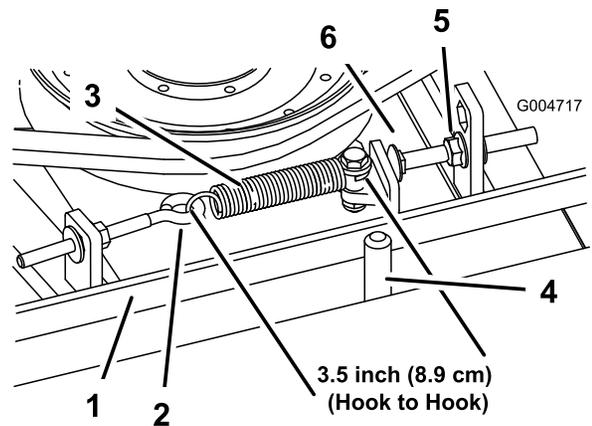

Figure 65
When properly tensioned, the extension spring (hook to hook) measurement should be approximately 3.50 ±.25 inch (inside). Once the correct spring tension is attained, adjust the stop bolt (carriage bolt) until there is approximately .125 +.060/-.000 inch clearance between the head of the bolt and the idler arm (Figure 65).
Note: Make sure the belt is positioned on the spring side of the belt guide (Figure 65).
2. Loosen the eye bolt allowing the removal of the extension spring (Figure 65).
3. Loosen the flange nut securing the stop bolt to the mounting tab. Back off the nut enough to allow the idler arm to pass by the stop bolt (Figure 65). Move the idler pulley away from the belt to release belt tension.
8. Reconnect the extension spring (Figure 65) to the eye bolt and tension the belt as follows: